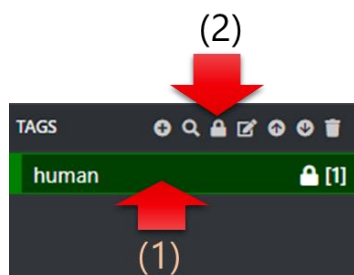

Fig.4.9 How to fix a tag
- As shown in Fig. 4.9, a selected tag can be automatically assigned to a frame placed on an image by clicking a tag and clicking a key mark. You can also release it using the same procedure.